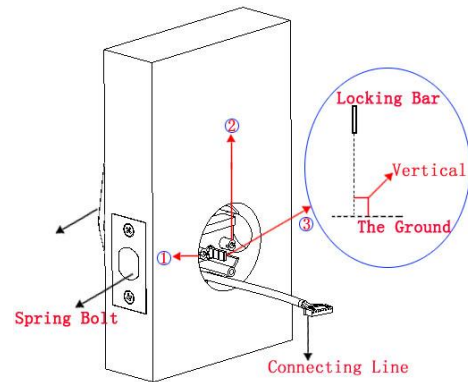

Figure 13
3. Install the front panel assembly into the matching hole on the door. (There are three holes on the Deadbolt Body, as shown in the preceding figure. The cylinder on the fore plate composition must be pulled out from the cross-shaped hole of the Deadbolt Body and the locking bar must be vertical to the ground.), as shown in **Figure 13**.